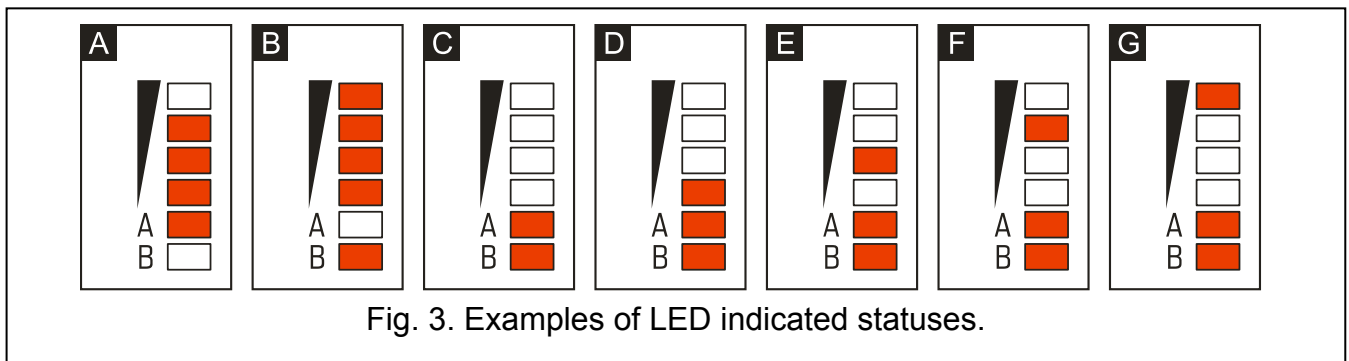

Fig. 3. Examples of LED indicated statuses.
- 2 - **LEDs** indicating the converter status. LED A is blinking when GPRS transmission is going on. LED B is blinking when SMS message is being sent or the converter is calling (CLIP test transmission). The other LEDs indicate the level of signal received by the GSM telephone. LEDs A and B blinking simultaneously indicate logging into the GSM network. In case of an unsuccessful GSM network login, blinking of the other LEDs provides information on the troubles (see: Fig. 3).
Explanations for Figure 3:
Some additional information can be provided by LEDs on the electronics board (see: Fig. 3).
If the SIM card PIN code is inconsistent with that defined in converter settings, the inconsistency will be indicated by the electronics board LEDs (see: Fig.3 Example F). The second attempt of using the PIN code will be made after 30 seconds. After the third attempt to use the invalid PIN code, the SIM card will be blocked. In order to enter the PUK code and unblock the SIM card, remove it and insert into the mobile phone.